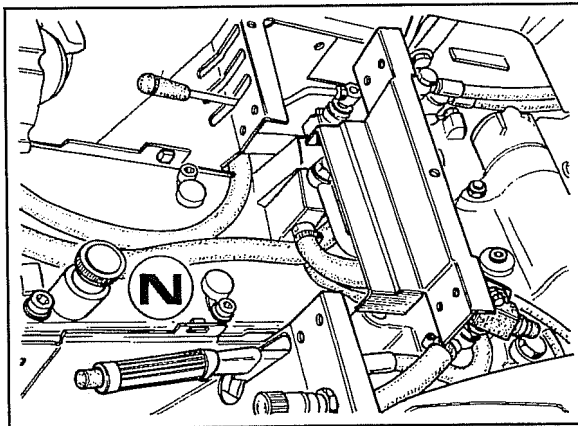

Fig. 3
- 3 Remove the transmission casing cover **N** Fig.3.